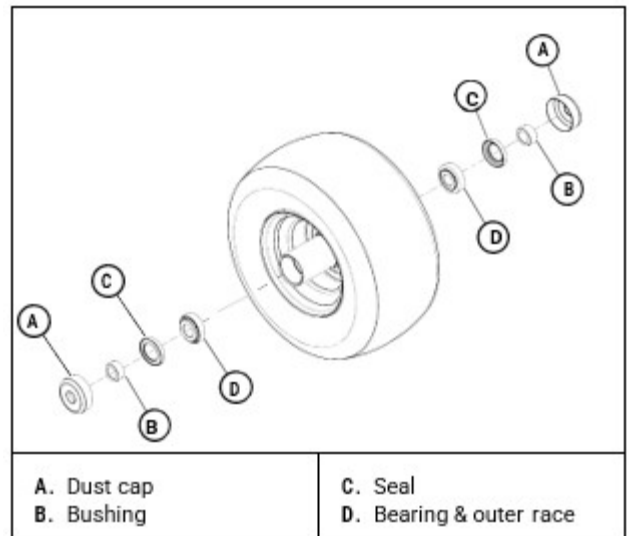

Figure 37
4. Remove the dust caps and bushings from the wheel housing. Retain these parts. [Figure 37]
5. Remove and discard the seals. [Figure 37]
6. Remove and discard the tapered roller bearings and outer bearing races. [Figure 37]